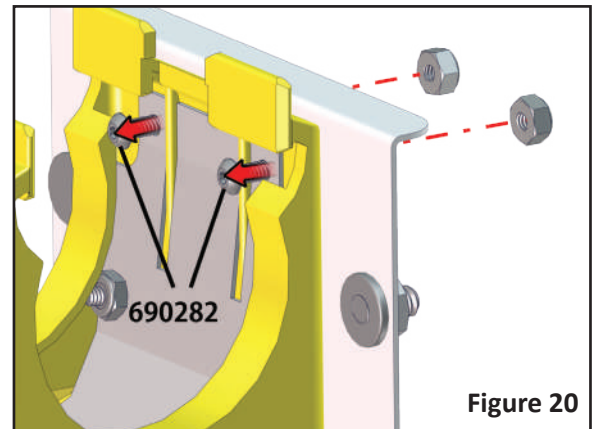

Figure 20
6. Remove the two (2) 690282 screws holding the paddle assembly to the mounting bracket, as shown in Figure 20.